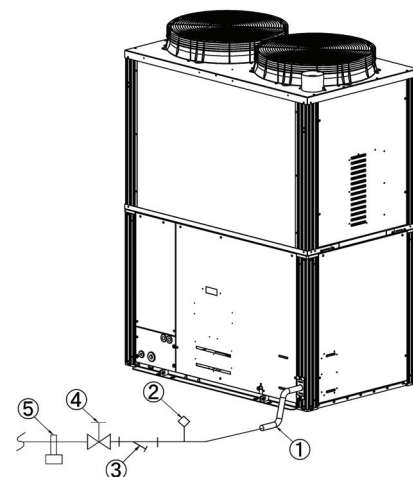

Fig. 10 Fuel Pipe Structure Diagram
(2) Fuel piping work
As needed, attach devices ②, ③ or ⑤ to the outdoor unit external fuel gas pipe. (Fig. 10)
① Flexible gas hose ② Pressure release tap ③ Strainer ④ Master valve ⑤ Pipe bracket